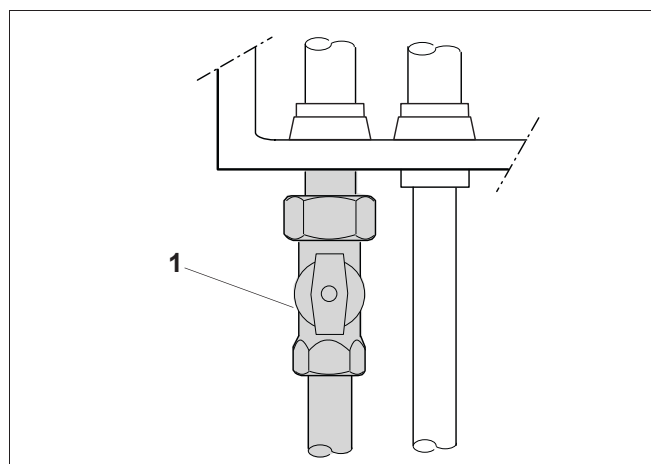

Fig. 8 Making the gas connection
- Connect the gas pipe to the gas cock (see fig. 8, pos. 1) so that it is free from any strain.